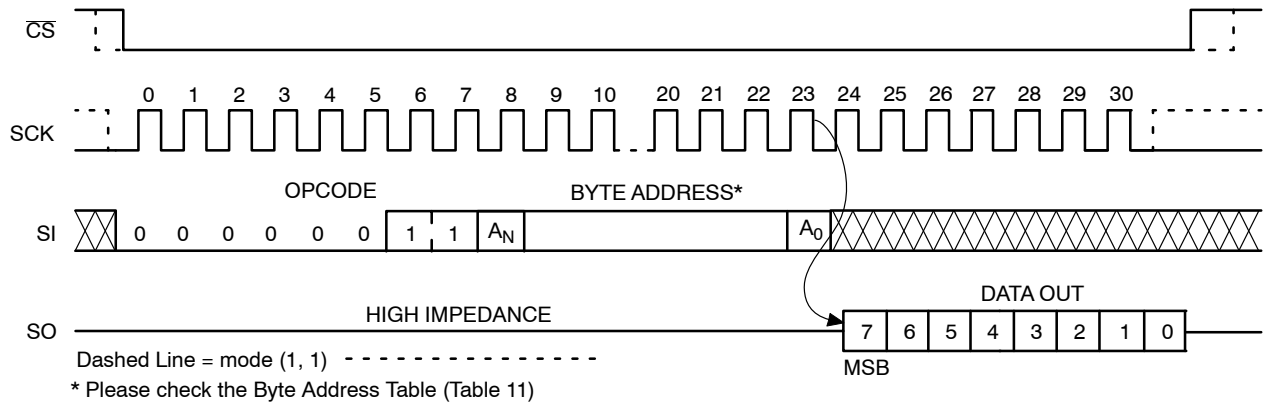

Figure 9. READ Timing
After receiving the last address bit, the CAT25512 will respond by shifting out data on the SO pin (as shown in Figure 9). Sequentially stored data can be read out by simply continuing to run the clock. The internal address pointer is automatically incremented to the next higher address as data is shifted out. After reaching the highest memory address, the address counter “rolls over” to the lowest memory address, and the read cycle can be continued indefinitely. The read operation is terminated by taking CS high.
Reading the additional 128-byte Identification Page (IP) is achieved using the same Read command sequence as used for Read from main memory array (Figure 9). **The IPL bit from the Status Register must be set (IPL = 1) before attempting to read from the IP.** The [A6:A0] are the address significant bits that point to the data byte shifted out on the